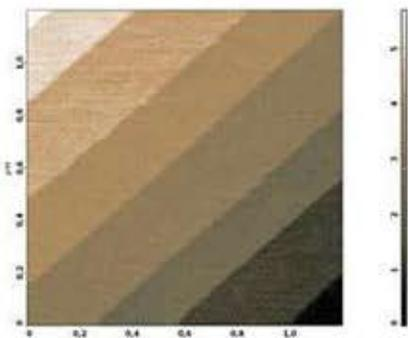
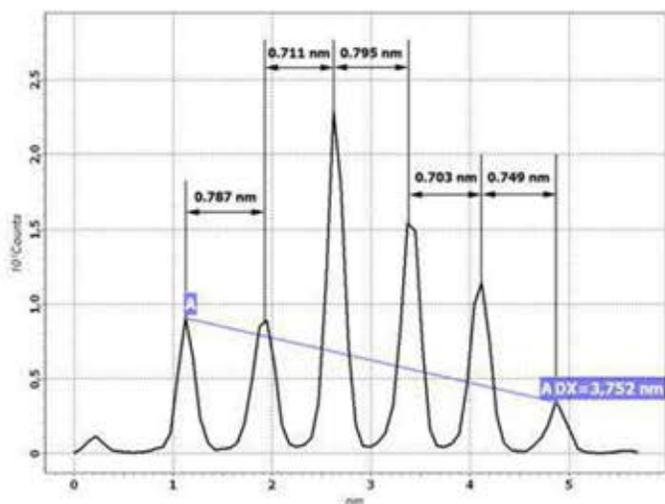

Fig.2A AFM image 1,2X1,2 μ m
Fig.3A Height spectra
- After obtaining good quality AFM-image of the sample surface with several steps use the software filter to flatten image so that every single step becomes horizontal (Fig. 2A and 2B). Choose the area on AFM-image for obtaining height spectra by using possibilities of AFM software. Please, choose the area with maximum number of steps for better statistics. After obtaining height spectra with peaks corresponding to each step, measure the interpeak distances. Note that distances between neighboring peaks may vary a little (see Fig.3A and 3B), so it is useful to average distances between peaks by measuring distance between far standing peaks and dividing the measured value by the number of included interpeak distances (A-A on Fig. 3A and 3B). Change the scanner calibrating constant while average interpeak distance becomes 0.75 nm.